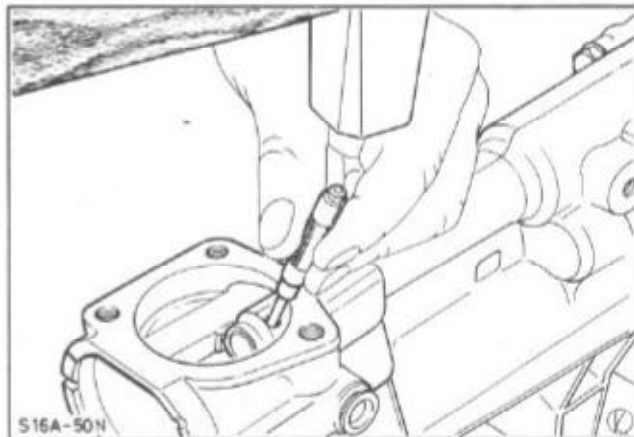

Fig.1. Detach selector crank from shift rod.
5. Detach selector crank from shift rod by pulling the shift rod towards the rear in 3rd gear position and supporting the selector crank. Then drive out roll pin, Fig.1.